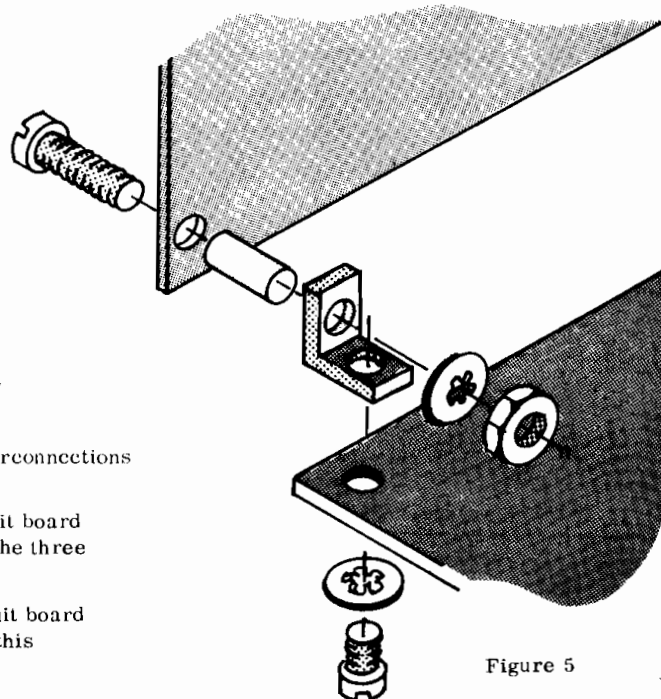

Figure 5
- ( ) Fasten the two "L" brackets to the front panel using one 1 inch 4-40 screw, one 3/4 inch spacer, one lockwasher and one 4-10 nut on each bracket as shown in figure 5. Note that the unthreaded hole in the "L" bracket is used in this operation.